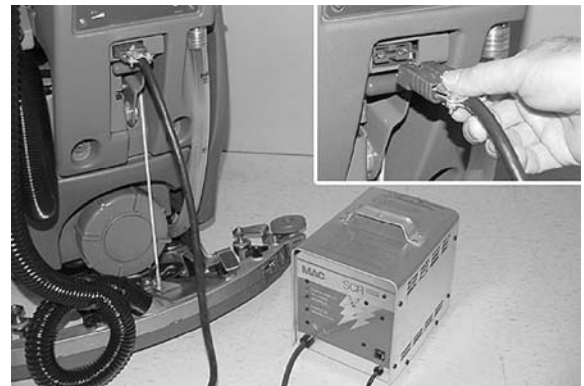

FIG. 47
11. Recharge the batteries after a total of 30 minutes of use or more (Figure 47). (See CHARGING BATTERIES).